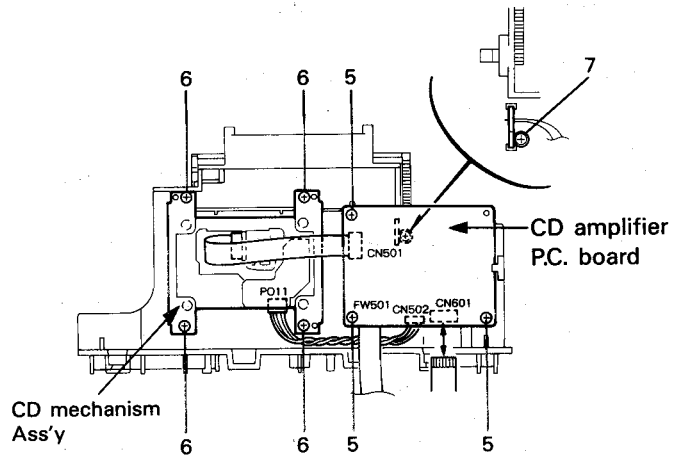

Fig. 7-5
■ **CD Amplifier P.C. Board (refer to Fig. 7-5)**
1. Remove the three screws (5) retaining the CD amplifier P.C. board from the CD player chassis.
4. Remove the screw (7) retaining the CD door close switch P.C. board.
■ **CD Mechanism Assembly (refer to Fig. 7-5)**